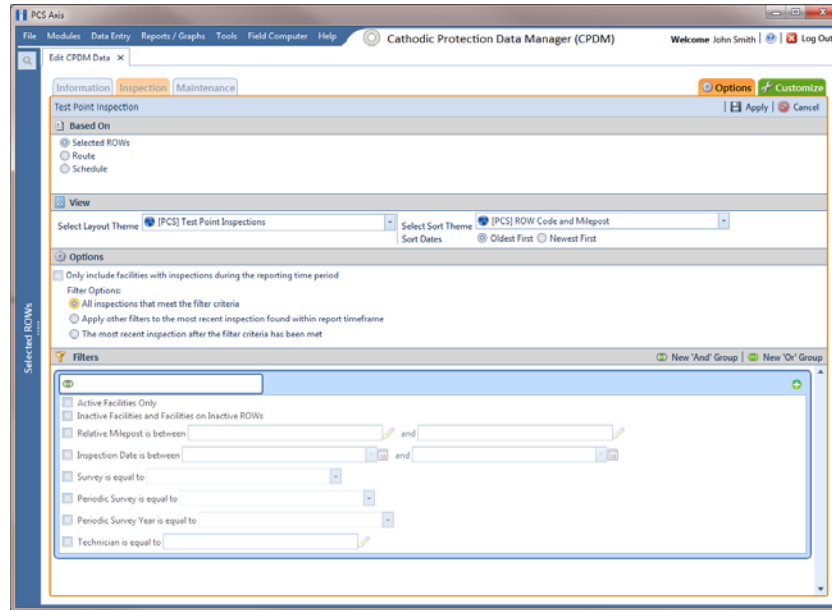

Figure 8-17. Options
- 6 Click  **Save**, then click the **Options** tab  to open the options page (Figure 8-17, page 337).